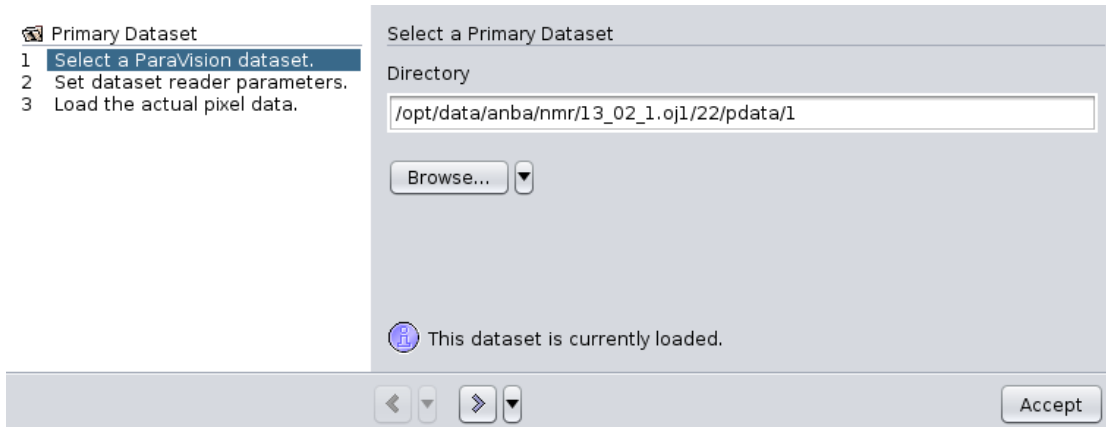

Figure 1.156: Load Dataset Task: Select a ParaVision Dataset
- Click **Primary Dataset** or **Secondary Dataset** on the task panel. The respective wizard opens (see [Figure 1.156 \[188\]](#)). The following description uses the primary dataset reader; the functionality of the secondary dataset reader is identical.